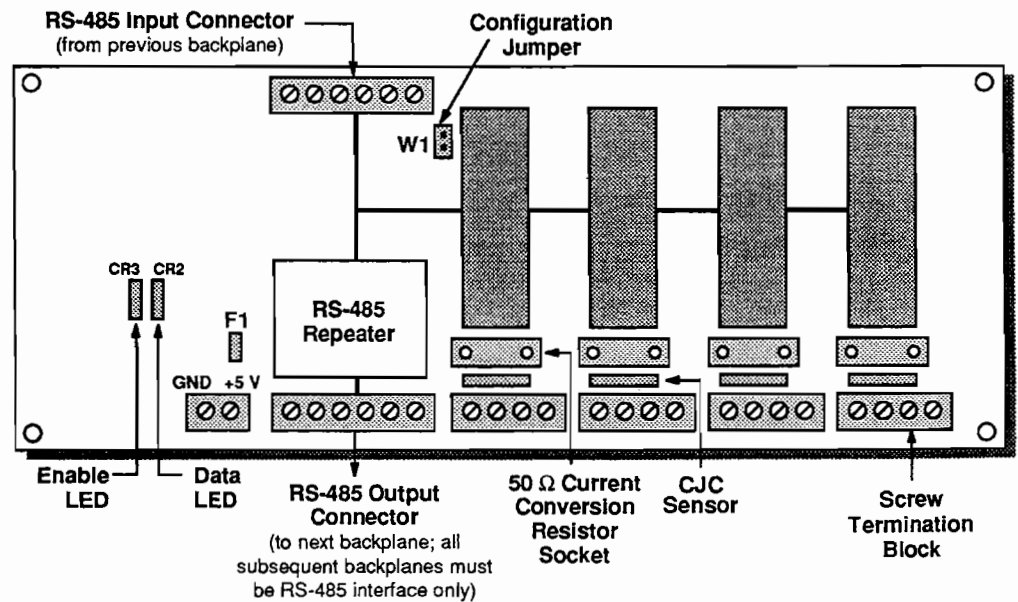

Figure 1-6. 6BP04-1 Backplane
- **6BP04-1 Backplane** - The 6BP04-1 backplane, shown in Figure 1-6, is a 4-channel backplane. It has two RS-485 connectors, one for connecting to the previous 6B Series backplane or 6B50 digital I/O board in a network and one for connecting to the next backplane or board in the network. It also has an RS-485 repeater that allows you to connect the backplane to another backplane or board at a distance of up to 4000 feet.
Note: The 6BP04-1 INPUT and OUTPUT connections (shown in Figure 1-6), may NOT be interchanged when wiring a 6B Series system... in the event they are interchanged, the 6BP04-1 and subsequent 6B backplane boards will not respond – however, no damage will occur to the boards.